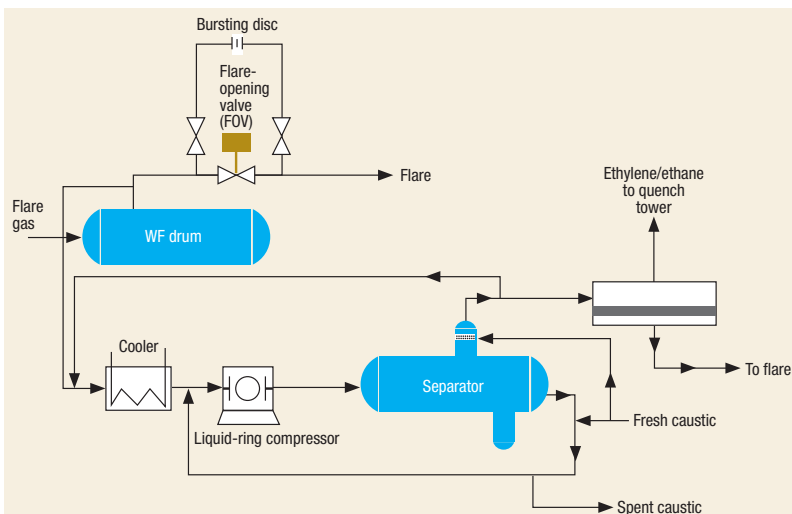

FIGURE 3. This proposed FGRU can be used on the outlet of the wet flare drum to return C2 components to the quench tower
In addition to adsorption beds (including PSA), membrane-based separation systems can be used for the recovery of propane/propylene and ethylene at the refrigeration cycles charge, with the remaining gases sent to the C3+ storage tank. It is notable that the recovery and reuse of valuable components, such as C2 or C1–C3, from the wet flare (WF) drum to the quench tower is possible and economical (Figure 3). This should be kept in mind during the
Generally, all of the quench towers in an olefin plant operate in the pressure range of 0.4–0.5 barg. Because caustic is available both for cooling and as the absorbing media, it can be used for operating the liquid-ring compressor in Figure 3.